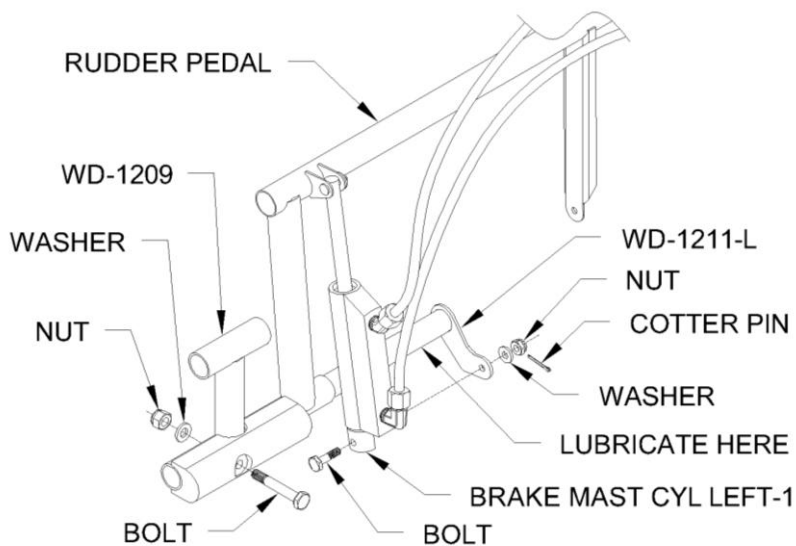

Figure 19: Torque tube lubrication
1. Actuate the rudder pedals so that the brake pedal to be serviced is offset from the adjacent rudder and brake pedal. The following steps relate to **Figure 19**.